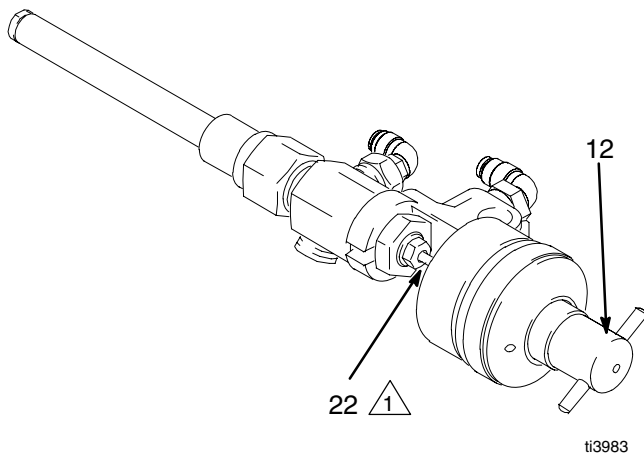

Fig. 2
1. Before each day's operation, lubricate the exposed portion of the needle (22) and the piston (16) with a lubricant compatible with the fluid being dispensed. See Fig. 2.